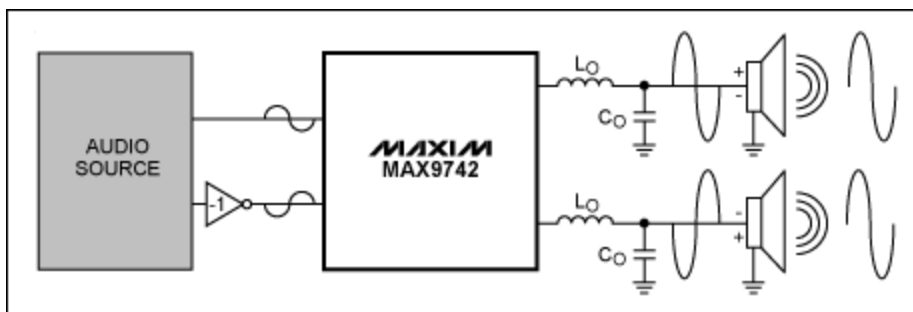

Figure 3. Illustration shows how to reverse the polarities of Channels 2 and 1 to overcome power-supply pumping.
2. In most audio tracks, the low-frequency energy in the music is mono (i.e., the same for the left and the right channels). Therefore, one can reverse the polarities of Channel 2 with respect to Channel 1. As shown in **Figure 3**, the audio input on Channel 2 is inverted. The Channel 1 and Channel 2 outputs are out of phase with respect to each other, so the power-supply pumping that occurs in one channel cancels the pumping in the other channel. In this case the audio connection at the speaker terminals on Channel 2 need to be connected in opposite polarity. This configuration will "un-invert" the output signal of Channel 2 so that the audio content of Channel 1 and Channel 2 are now in phase with each other.